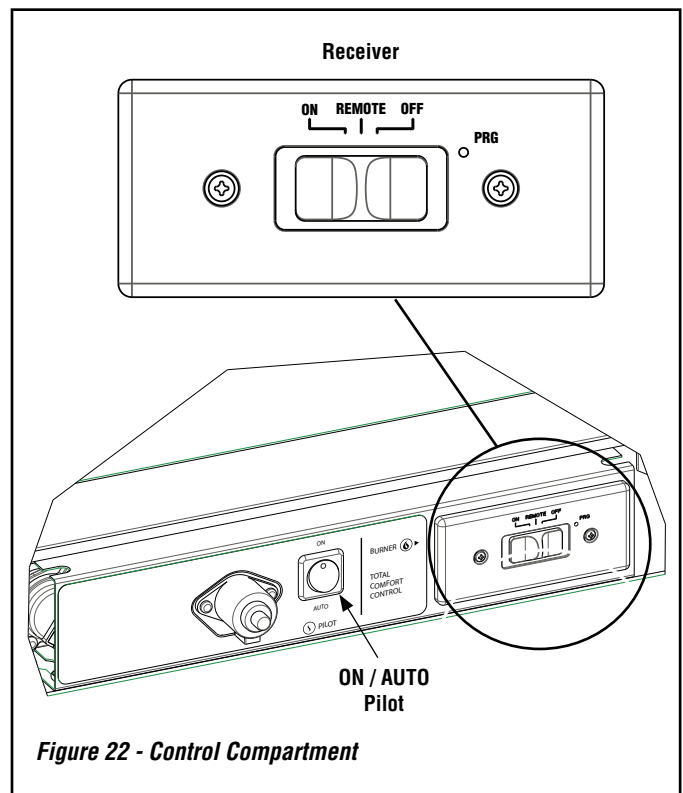

Figure 22 - Control Compartment
Place the 3 position slider switch in the "Remote" position (see *Figure 22*). Using the end of a paper clip, or other similar object, insert the end of the paper clip into the hole marked "PRG" on the Receiver front cover. The Receiver will "beep" three (3) times to indicate that it is ready to synchronize with the Remote (transmitter).
NOTE: The blower can be controlled only by the remote. Turning the appliance off with the unit mounted three position slider switch (**Figure 22**) will NOT turn off the blower. To turn off the blower, use the remote in lieu of or prior to shutting the appliance off at the three position slider switch (**Figure 22**).